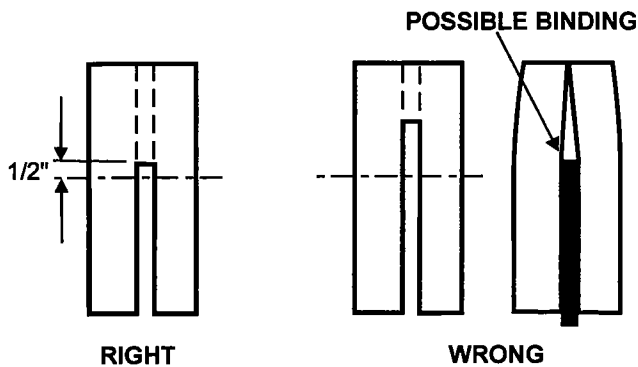

FIGURE 17
2. In resawing wider boards, adjust the blade height so as to overlap the two cuts by 1/2" as shown in Figure 17. Too deep a first cut can result in binding and possible kickbacks on the second cut. Always use the same side of the board against the fence for both cuts.